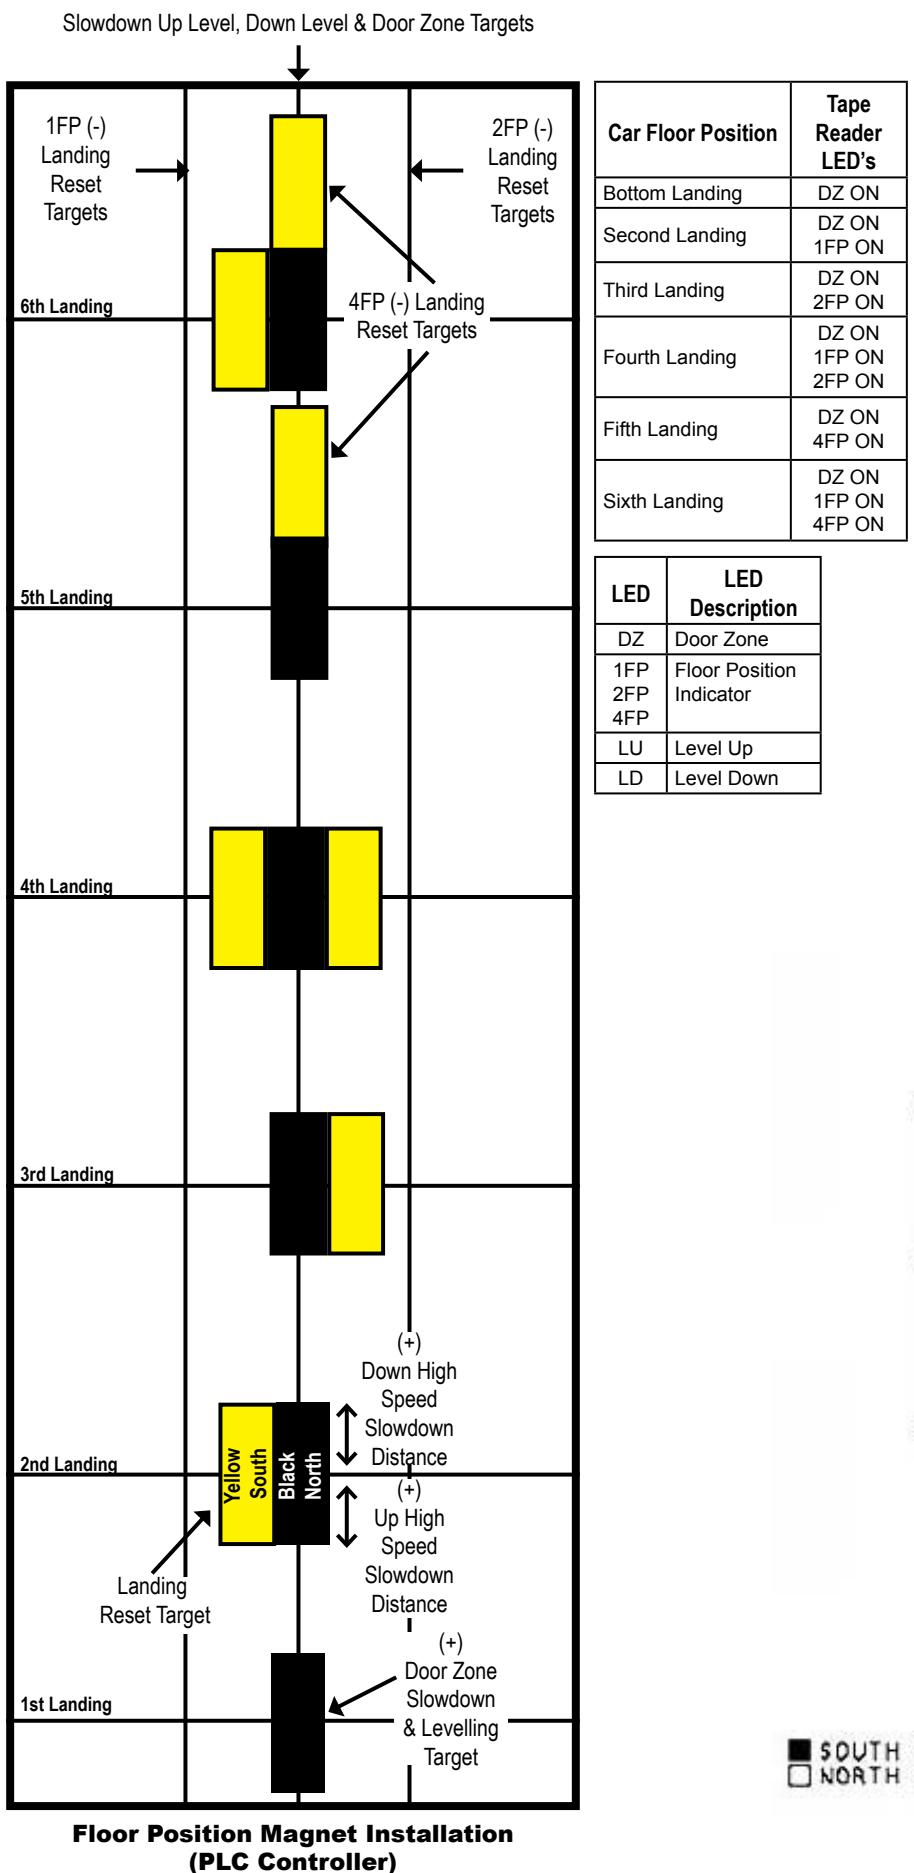

Figure 69 Magnet Positions On Tape
- 6) Position the magnets as shown in Figure 69 on the next page making careful note of the placement of + (north, all black) and - (south, yellow stripe) polarities and the 3 vertical column positions. Refer also to the Electrical Schematics in Appendix A.
- a) The north and south magents are centered on the tape as shown in Figure 69.